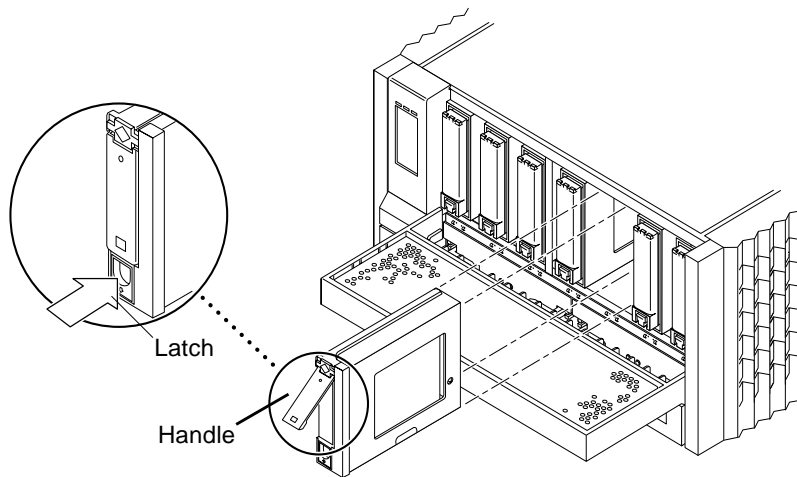

FIGURE 7-2 Removing a Disk Drive
5. Remove the disk drive (FIGURE 7-2).